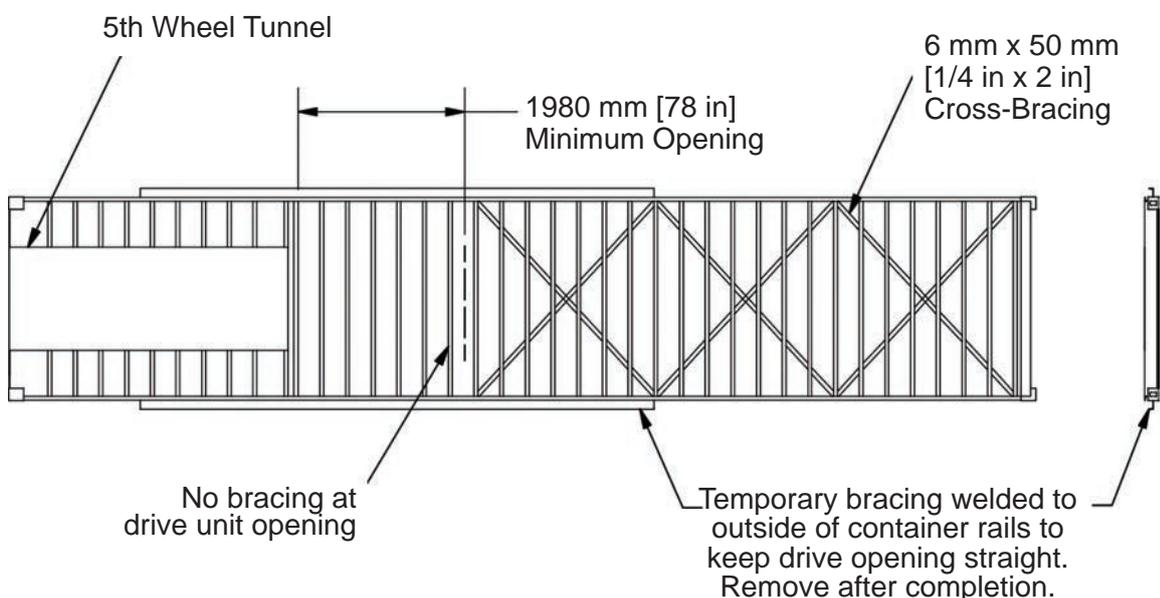

Figure 1
1. Install bracing as shown in Figure 1.